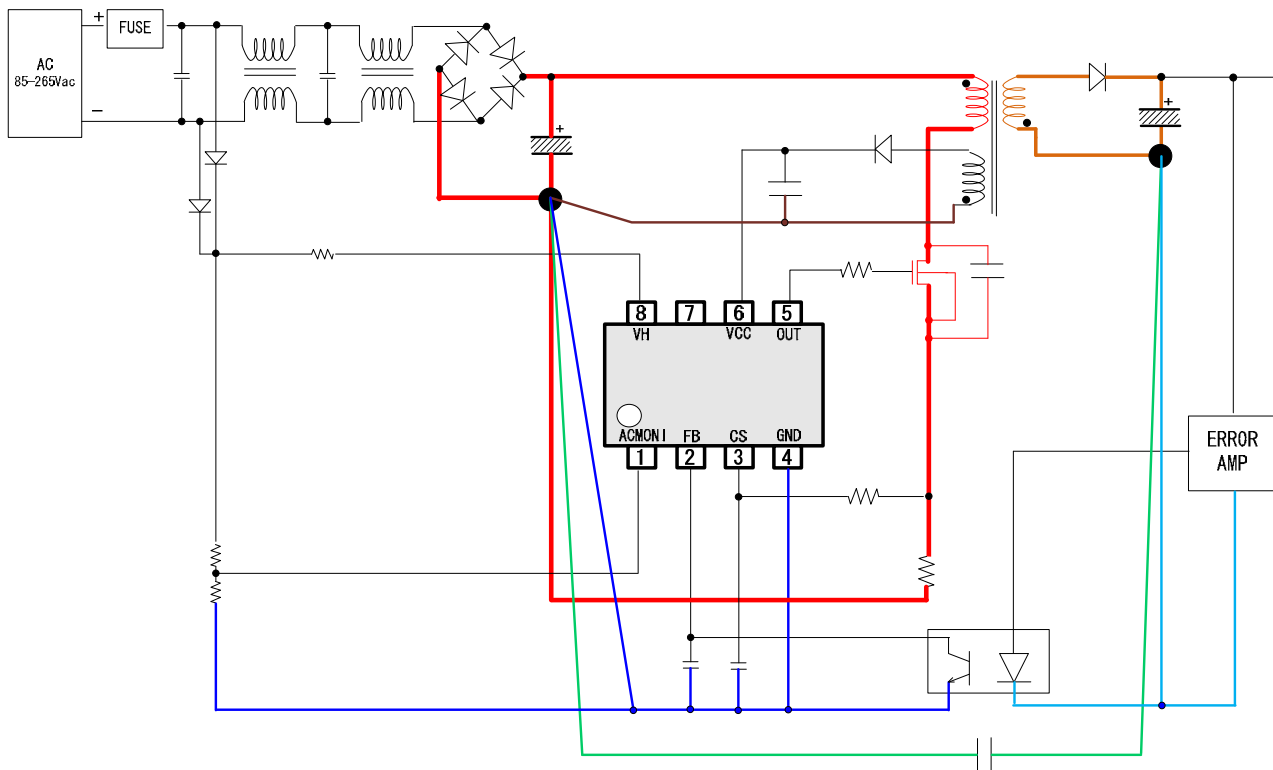

Figure 27. Board Layout Pattern
- ① The red lines shown in Figure 27 are large current pathways. In the layout, these should be as short as possible since they can cause ringing, dissipation, etc. Also, any loops that occur in the red line should be made as small as possible in this layout.
- ② The orange lines in the secondary side of Figure 27 should also be made short and thick like the red lines and should be made with small loops in this layout.
- ③ Be sure to implement grounding for the red lines, brown lines, blue lines, and green lines.
- ④ The green lines are pathways for surges on the secondary side to escape to the primary side, and since a large current may flow instantaneously, they should be laid out independently of the red lines and blue lines.
- ⑤ The blue lines are GND lines for IC control. They do not have any large current flow, but they are susceptible to noise effects, so they should be laid out independently of the red lines, green lines, and brown lines.
- ⑥ The brown lines are current pathways for the VCC pin. A current flows on these lines during switching, so they should also be laid out independently.
- ⑦ Do not route any IC control lines directly under the transformer, since they may be affected by magnetic flux.